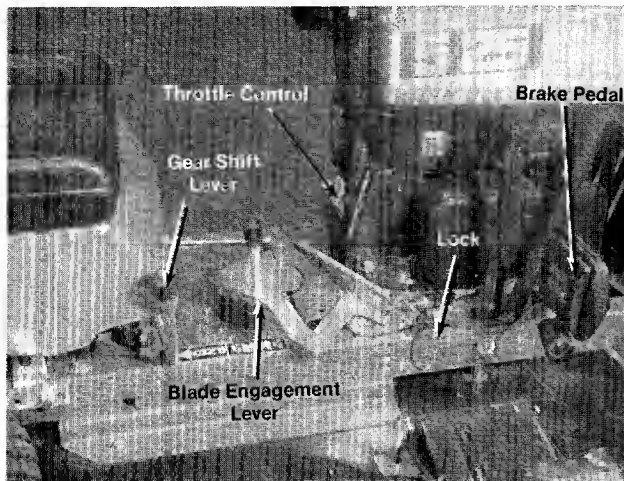

FIGURE 11.
- A. Throttle Control actuates the butterfly in the carburetor and may be set at CHOKE, FAST or SLOW. See figure 11.
- D. The Blade Engagement Lever engages and disengages the blade. Pull the Blade Engagement Lever back to stop the blade. Move the Blade Engagement Lever forward to engage the blade. See figure 11.
- E. The Gear Shift Lever is used to select either forward or reverse. See figure 11.
- G. The Brake Pedal is operated with your right foot and is used to stop the forward or reverse motion of the rider. To engage the brake, depress the Brake Pedal with your right foot. To set the parking brake, depress the brake and lift the lock. To release, depress the brake pedal. See figure 11.